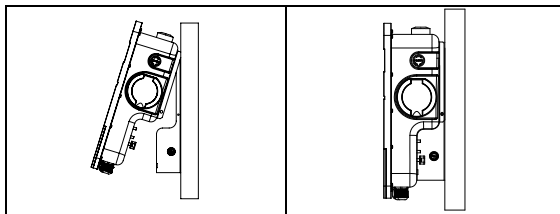

Fig. 5-5 Fix the charging station on the wall
1. Open the decorative cover and sealing cover as shown in fig 5-5.